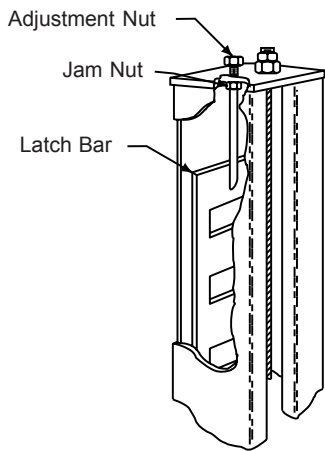
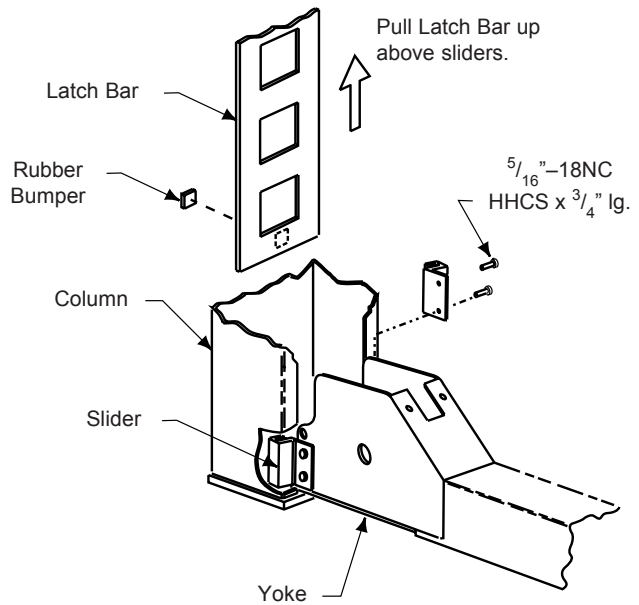
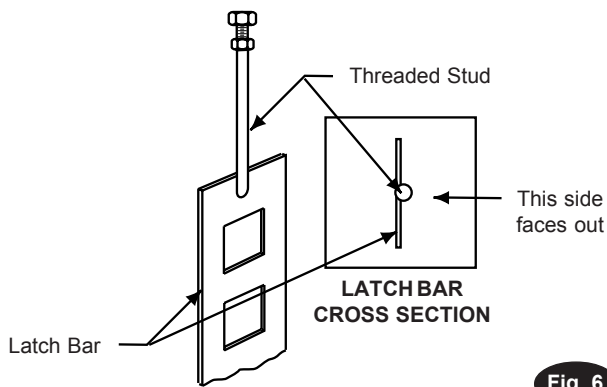

Fig. 5a
Fig. 7
Fig. 6
- B. Thread the jam nut down the threaded stud as far as possible. Stick rubber bumper to bottom of latchbar, see Fig. 7. Place the latch bar in the back of the column, Fig. 5a. The latch bar is offset from the center line of the threaded stud (inset Fig. 6). The latch bar should be oriented toward the back of the column from center line of the threaded stud.